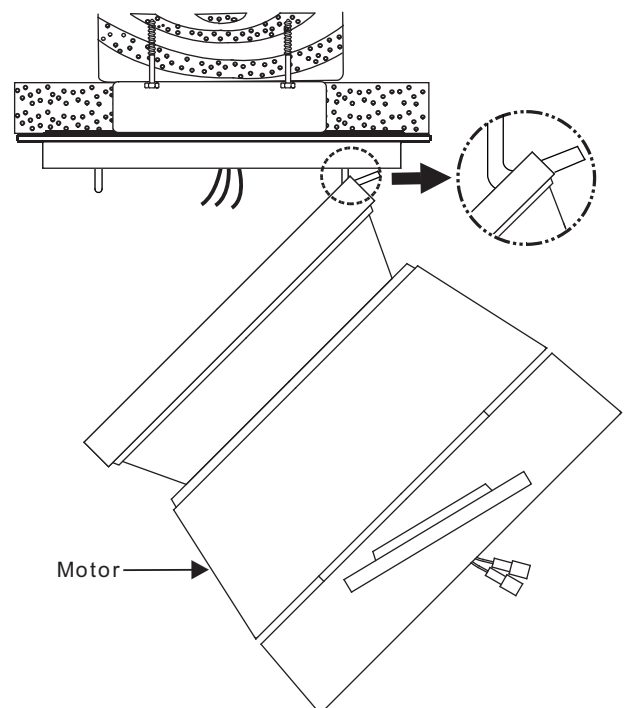

Figure 6
Step 3. Lift fan into position by hanging the motor assembly onto the hook from the ceiling mounting bracket allowing it to hang freely. (Fig. 6)